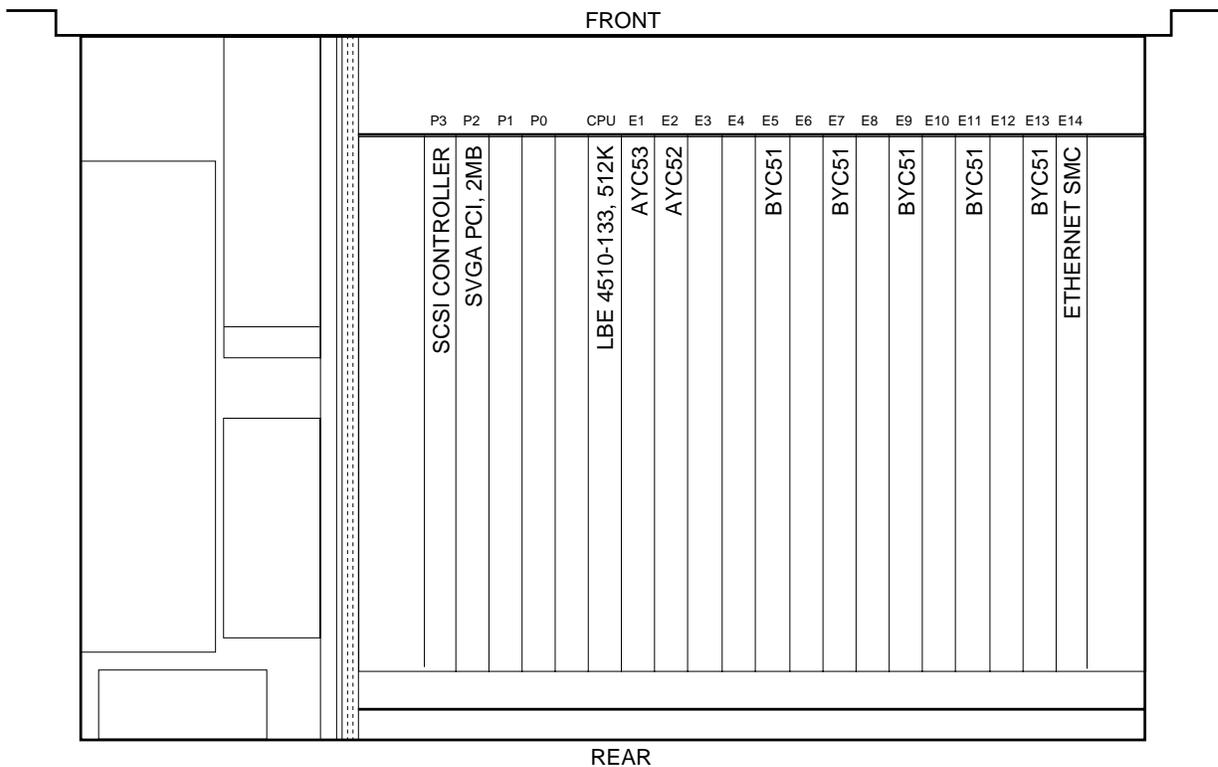

Figure 3. CDSU-II Circuit Pack Locations (Top View)
- Is the replacement CDSU-II equipped with BYC51, AYC52, and AYC53 circuit packs (Figure 3)?